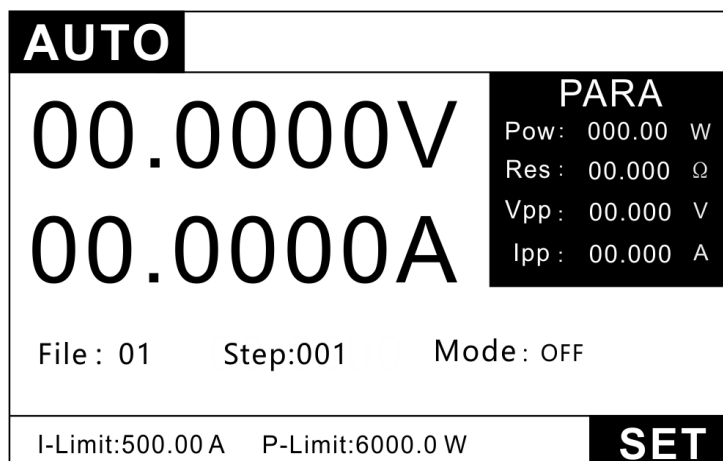
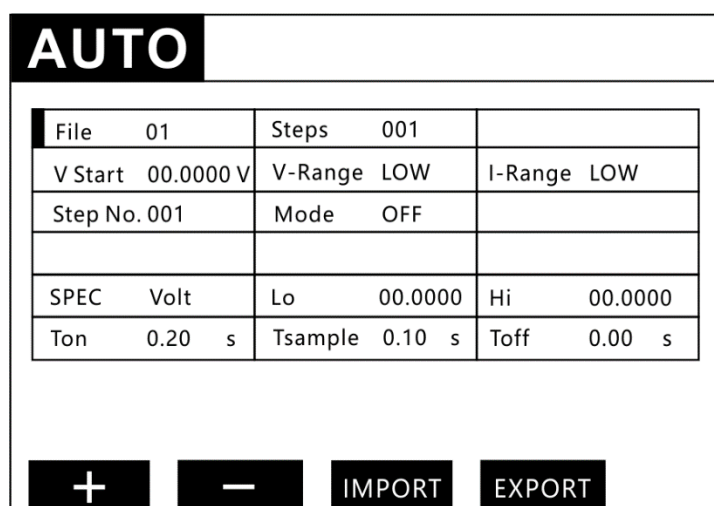

Figure 3.12 AUTO test
Figure3.13 AUTO test editing page
1. Press the key **MODE** to enter the mode selection page, press the up and down keys to select AUTO, and press the key **ENTER** to enter the AUTO test interface, as shown in Figure 3.12.
2. In Figure 3.12, press the key **SET** to enter the setting interface, as shown in Figure 3.13.